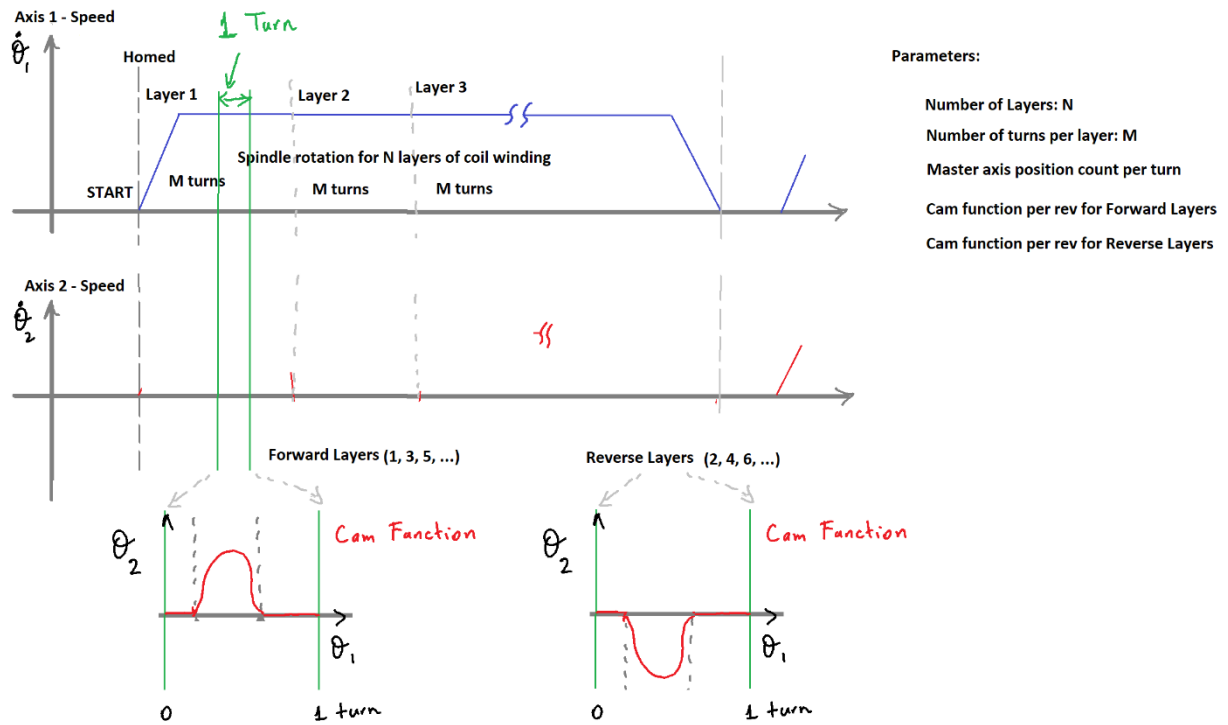

Fig. 3 – Coil winding machine automation logic for motion control: slotted coil winding.
**Slotted Type Coil Winding Applications:** Motion Coordination – electronic camming (Fig. 3).